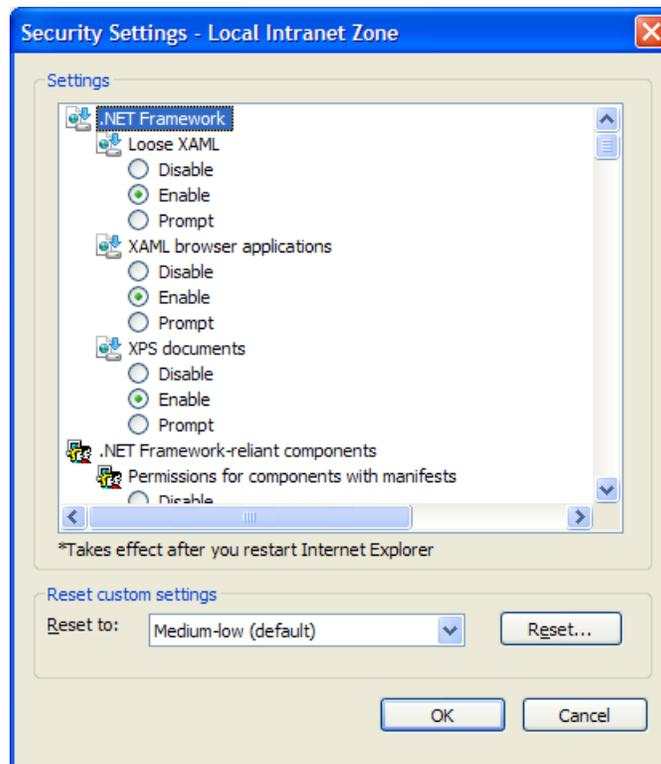

Figure 3-36: Security Settings – Local Intranet Zone Window
The *Security Settings – Local Intranet Zone* window displays, as shown in Figure 3-36.
4. Under *Reset custom settings*, select **Medium-Low**, as shown in Figure 3-36.